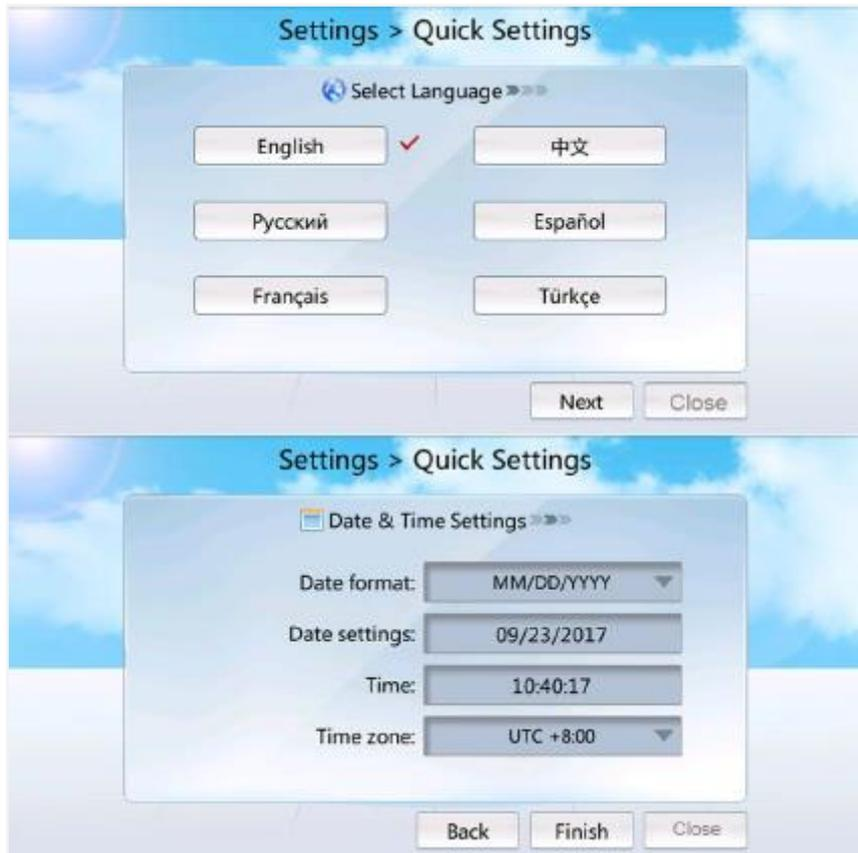

Figure 2-5 Quick Settings
Step 4 Figure 2-5 shows how to configure relevant parameters. Click **Next** until the LCD home screen is displayed after the configuration.